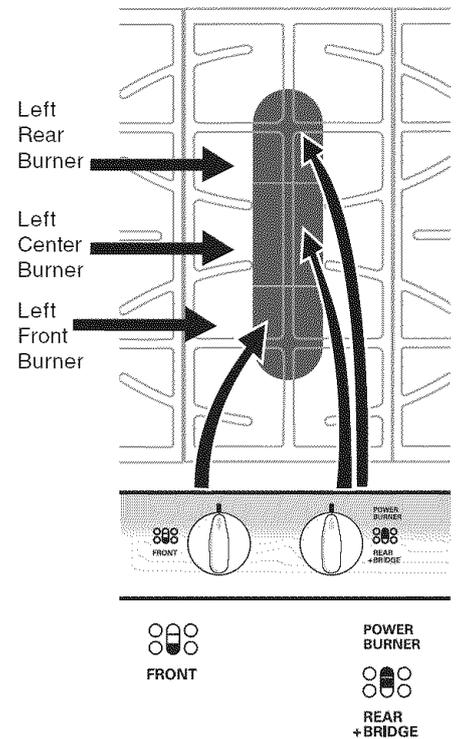

Fig. 1
The middle rear and middle center Burners are controlled by the **Rear +Bridge Burner** Control Knob. The front portion of the Bridge Burner may be added to complete the entire Bridge Burner using the **Front** (center) Control Knob (See Fig. 1).
1. Push the **Rear +Bridge** Burner control knob in and turn **counterclockwise** out of the OFF position (See Fig. 1).
2. Release the knob and rotate to the **LITE** position (See Figs. 1 & 2). Note: All electronic surface igniters will spark at the same time. However, only the selected surface Burner will lite.